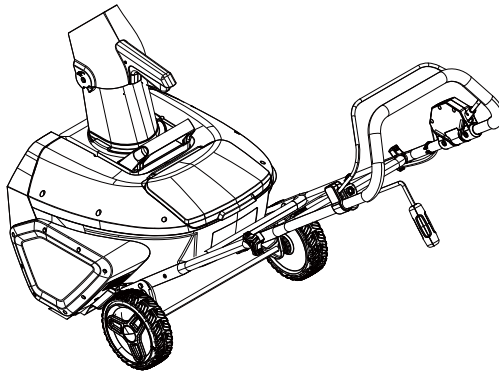

Fig. 1
1. Attach the middle handle onto the lower handle. Align the hole on middle handle with the hole on lower handle at either side. Make sure the bracket (a) on the middle handle is facing downwards as shown in Fig. 1.